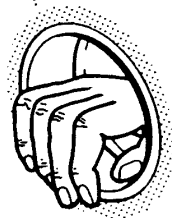

Fig. 69
10. Make good between the edge of the liner and the outside wall with cement mortar or a similar substance, by reaching through the liner and pressing the mortar between liner and the outside brick work (Fig. 69). Make good between the liner and the inside wall. Apply soap solution to the 'O' ring inside the liner.